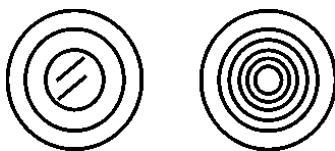

Figure 42. Pre-Heat Lamp/Pre-Heat Button
4. Press and hold the engine pre-heat button (Figure 42). Verify that the pre-heat lamp is lit. Continue pressing button until pre-heat cycle is complete. After completion of the pre-heating cycle, the light will go OFF and the engine will start up automatically.